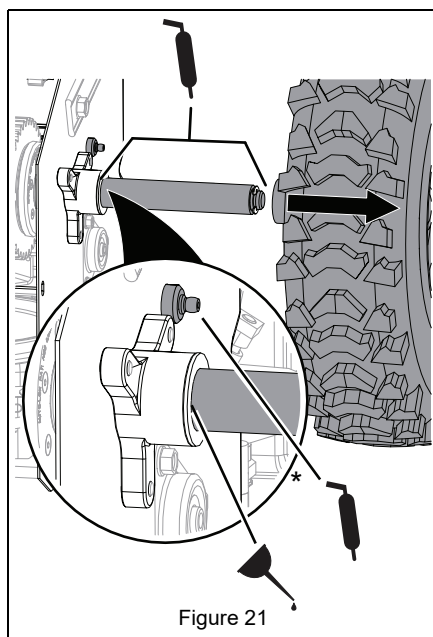
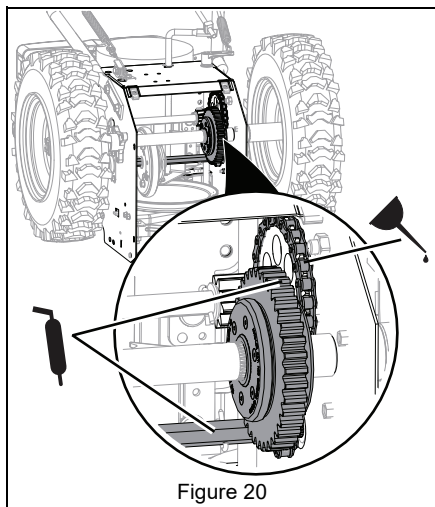

Figure 21
Figure 20
2. Lubricate as shown in Figure 20 and Figure 21.